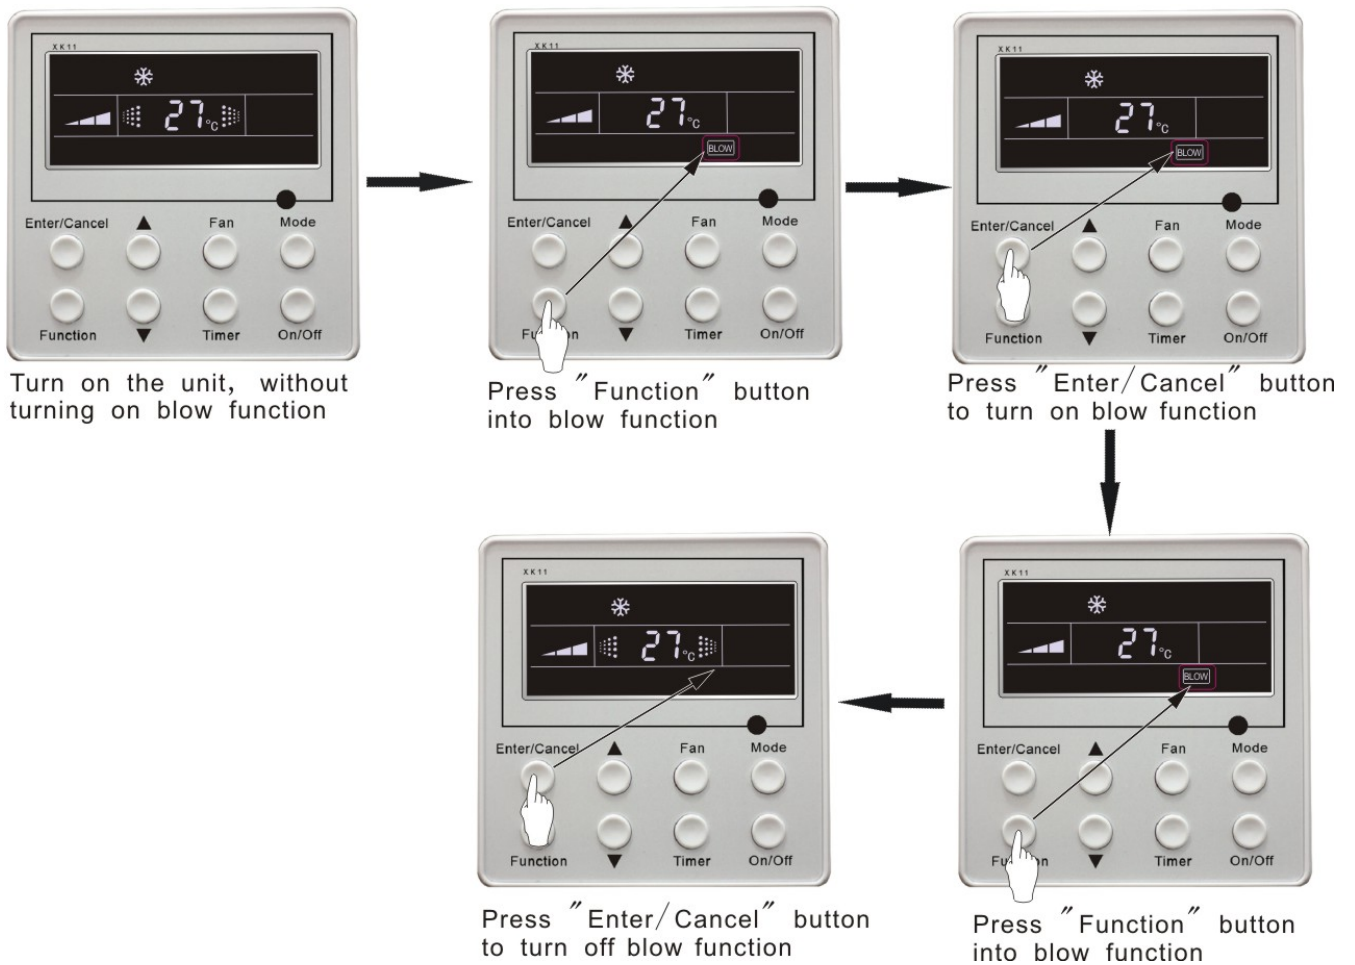

Fig. 5-16 Blow function setting
**BLOW** function setting is shown in Fig.5-16